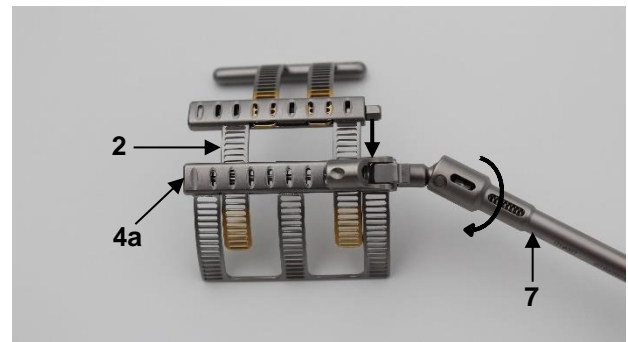

Fig. 4
First fully retract the primary element (2) using the appropriate screwdriver (7). To do this, turn the transport mechanism on the box module of the base element (4a) counterclockwise using the screwdriver (7) (Fig. 4).